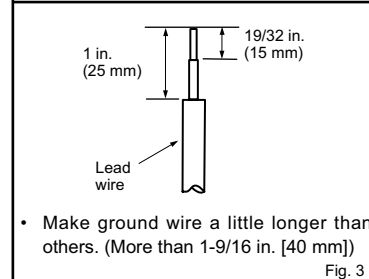

Fig. 3
- 5) Process the end of ground wire (Fig. 3). Connect it to the ground terminal of electrical parts box.
- 6) Process the end of indoor/outdoor unit connecting wire (A) (Fig. 3). Attach it to the terminal block. Be careful not to make mis-wiring. Attach the wire to the terminal block securely so that its core cannot be seen, and no external force affects the connecting section of the terminal block.
- Put the drain cap into the section to which the drain hose is to be attached at the rear of the indoor unit. (Fig. 3)
- When connecting the drain hose to a hard vinyl chloride pipe, be sure to insert it securely into the pipe. (Fig. 3)
- 2) Remove all burrs from the cut section of the pipe, ensuring that precautions are taken to avoid getting metal shavings into the piping. (Fig. 3)